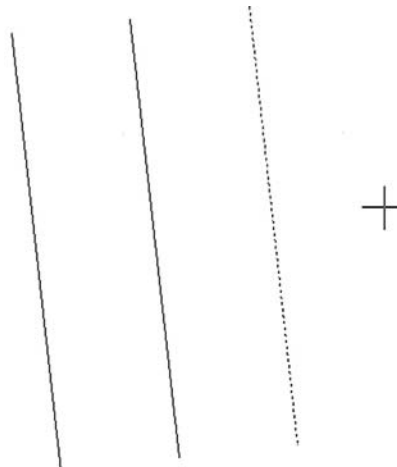

FIGURE 1.28
Step 4. Pick a *direction* for the line to go, which is to one of the two sides of the original line. It does not matter exactly how far away from the original line you click, as the distance has already been specified. You can keep doing this over and over by selecting the new line then the direction (see Figure 1.28). If you want to change the offset distance, you must repeat Steps 1 and 2.